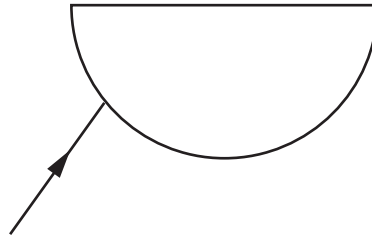

Fig. 4.2
- (c) Fig. 4.2 shows the incident ray used by another student. The ray in the block strikes the glass-air surface at the critical angle.